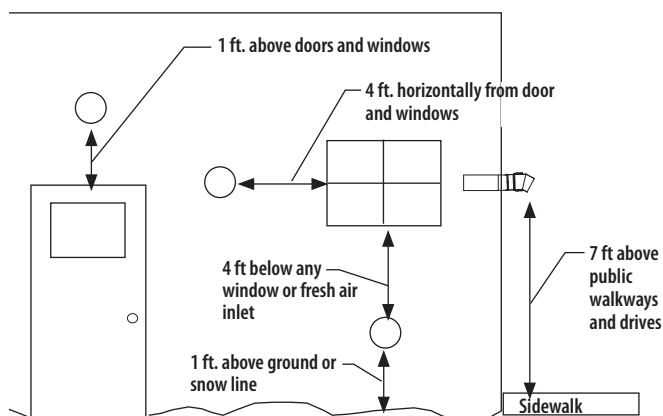

Figure 1 - Horizontal Termination Requirements
- When venting through a sidewall, terminate the system not less than 12" (.3m) above the ground and above the snow line in geographical areas where snow accumulates. The termination area must be kept clear of snow and ice at all times. See **Figure 1**.
- Terminate the system at least 7' (2.1m) above a public walkway or driveway, no less than 6' (1.8m) from the combustion air intake of any appliance or 3' (.9m) from any other building opening, gas utility meter, service regulator or the like. Less distance is permitted if specified in the appliance's installation instructions. It also shall terminate at least 3' (.9m) above any forced air inlet within 10' (3.1m) and shall terminate at least 4' (1.2m) below, 4' horizontally from, or 1' (.3m) above any door, window, or gravity air inlet into any building as provided in the National Fuel Gas Code ANSI Z223.1 and NFPA 54. See **Figure 1**. Proper judgment may require greater distances depending on the side of the equipment installed or to allow for snow drifting or falling from falling from overhead roofs or trees. The termination should be far enough away from trees, shrubs, or decorative items to prevent damage.